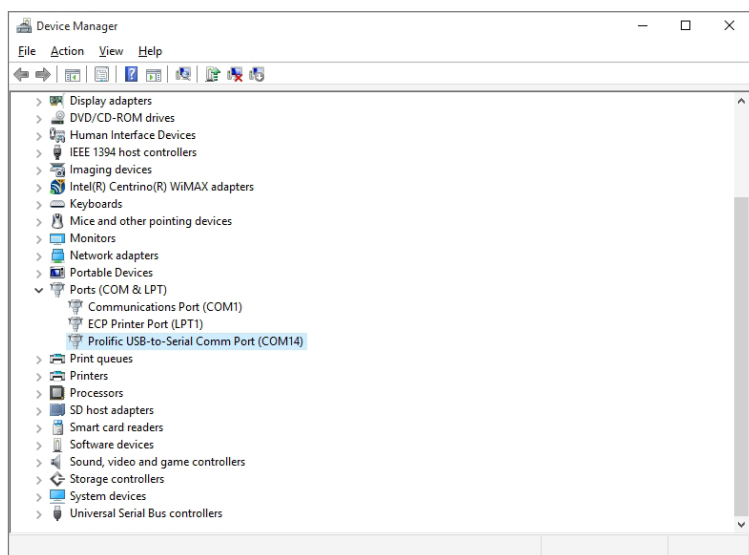

Figure 36: COM port in Device Manager window
- Find the COM port for the IR cable. The example (Figure 36) shows **COM 7** for the IR cable connected with a USB to serial adapter, "Prolific USB-to-Serial Comm Port."